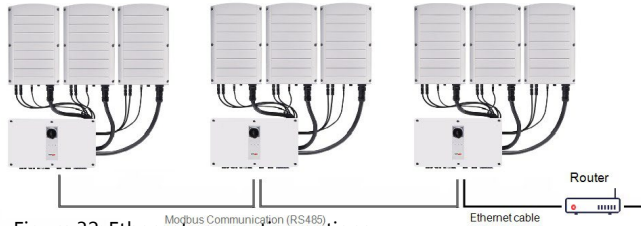

Figure 32: Ethernet connection options
- Connect the Ethernet connector to the RJ45 port on the communication board as shown in *Figure 32*.